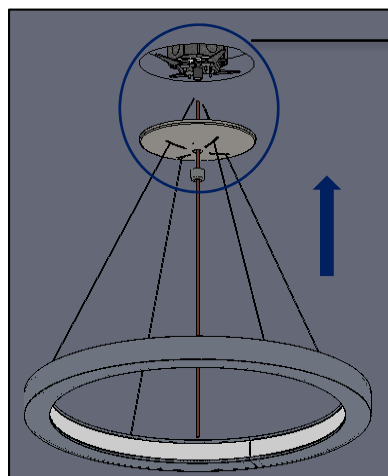

FIG. 19 - INSTALLATION VIEW
9. Raise the REV LUMINAIRE up, with multiple people, to the ceiling and feed the AIRCRAFT CABLE through the GRIPLOCK and CORD through NIPPLE which is available in MOUNTING BRACKET ASSEMBLY. Adjust the AIRCRAFT CABLE to the desired length as shown in FIG. 19 & 20 below.